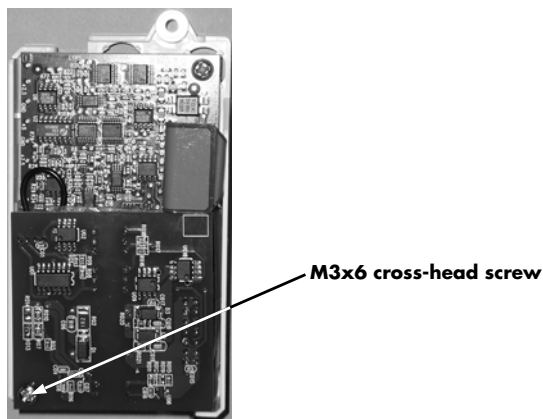
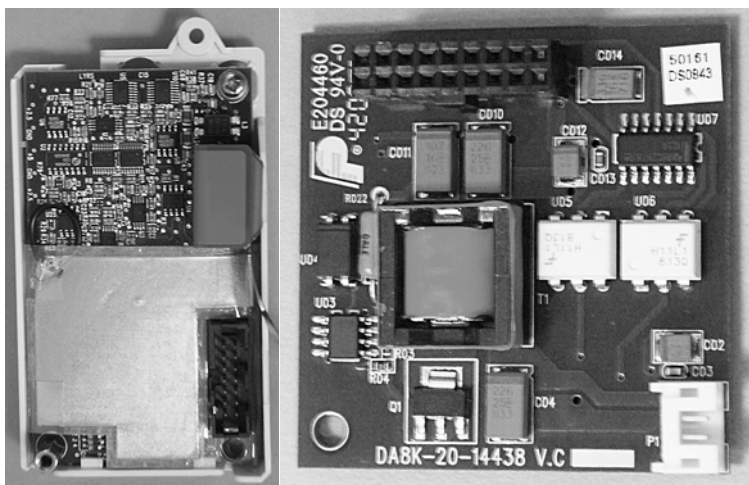

FIGURE 4-31 Remove one (1) M3x6 cross-head screw.
FIGURE 4-32 Nellcor SpO₂ board and isolated power supply.
1. Remove the M3x6 cross-head screw (as shown in FIGURE 4-31) to separate the SpO₂ module from its isolated power supply (as shown in FIGURE 4-32).